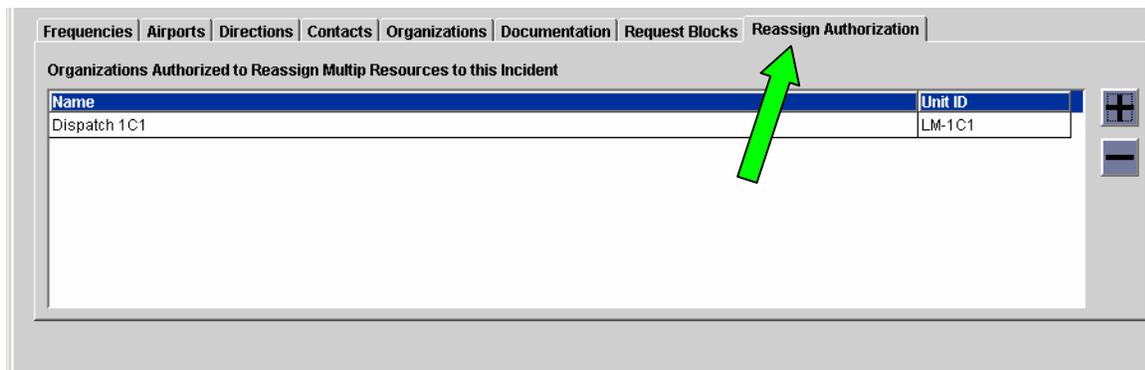

Figure 1. Granting reassign authority on Incident screen.
- A 'Reassign Authorization' tab has been added to the Incident screen (Figure 1). Granting reassign authority is the first step in Quick Fill Reassigning resources when the source and destination incidents are *managed by different dispatch centers*. Dispatch Managers may grant / revoke reassign authority on their local incident to any other dispatch center(s) except status-only, external or removed offices.